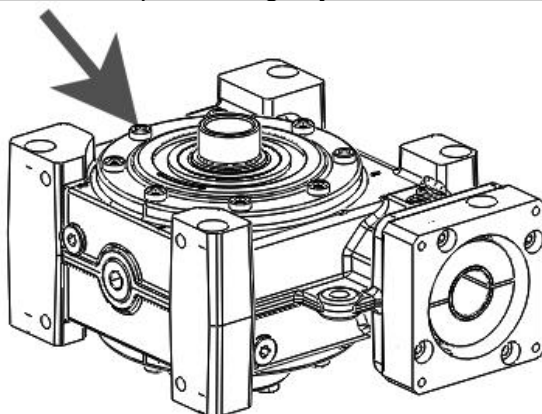

Fig. 11.1
- ➡ Remove the inner hexagonal bolts on both side covers (see fig. 11.1).